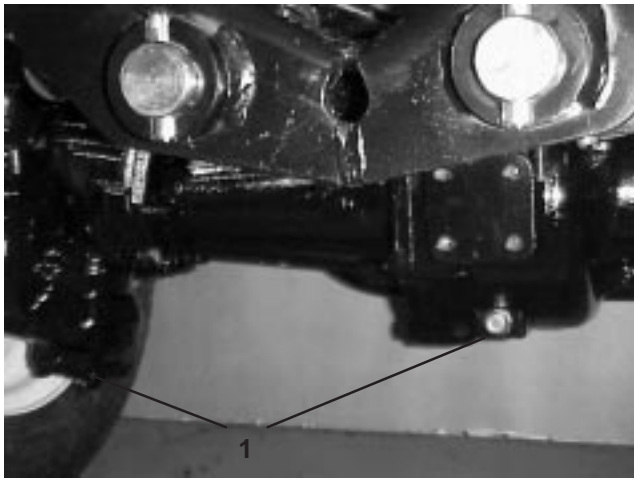

Figure 65
2. Clean the area around the 3 drain plugs, 1 on each end and 1 in the center (Fig. 65).
3. Remove the (3) oil level check plugs and main axle vent cap to ease in draining of the oil.